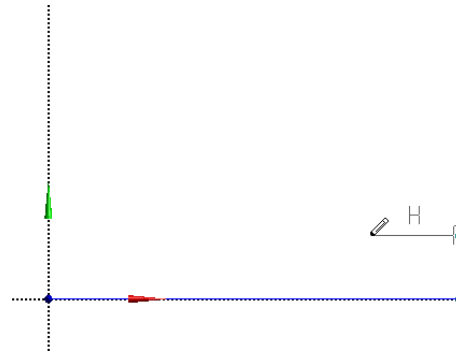

Figure 3-24 Specifying the endpoint of line 3
12. Move the cursor toward left to some distance; the symbol of Horizontal constraint (**H**) is displayed. Next, Click to specify the end point of line 3, as shown in Figure 3-24.